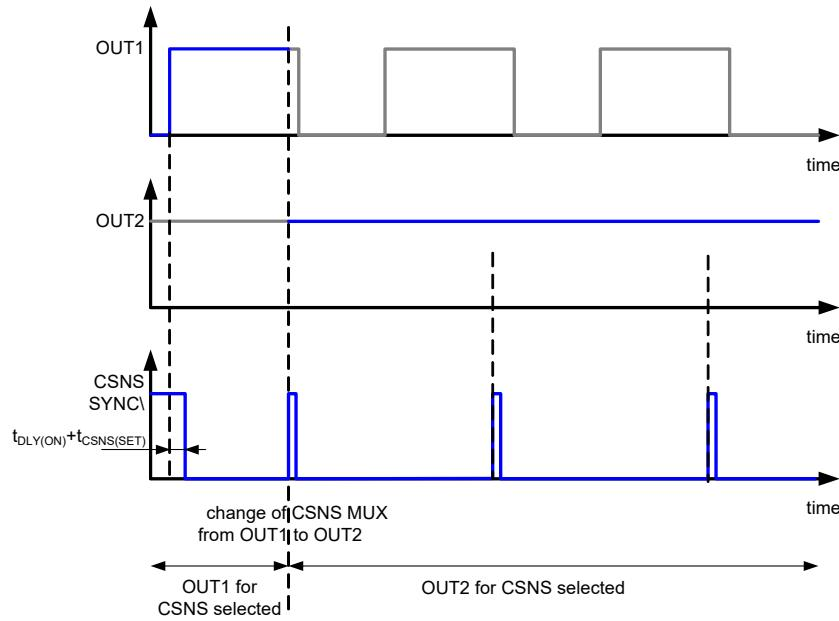

Figure 32. CSNS SYNCB when the output is programmed with 100%
- when the output is programmed with 100% PWM, the CSNS SYNCB delivers a logic[0] high pulse with the length of 100 μ s typ during the PWM counter overflow for TRIG0 and TRIG1/2 settings, as shown in Figure 32